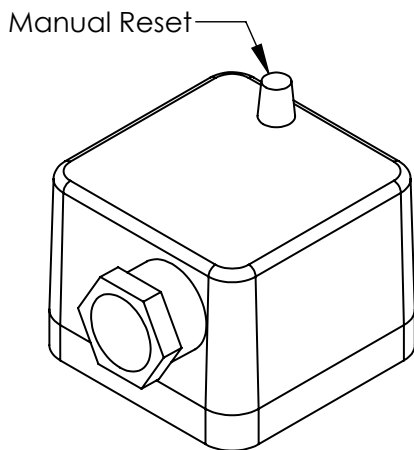

Figure 23: High/Low Gas Pressure Switch
10. If the high or low gas pressure switch tripped, it must be manually reset before the appliance can be restarted. (See Figure 23)